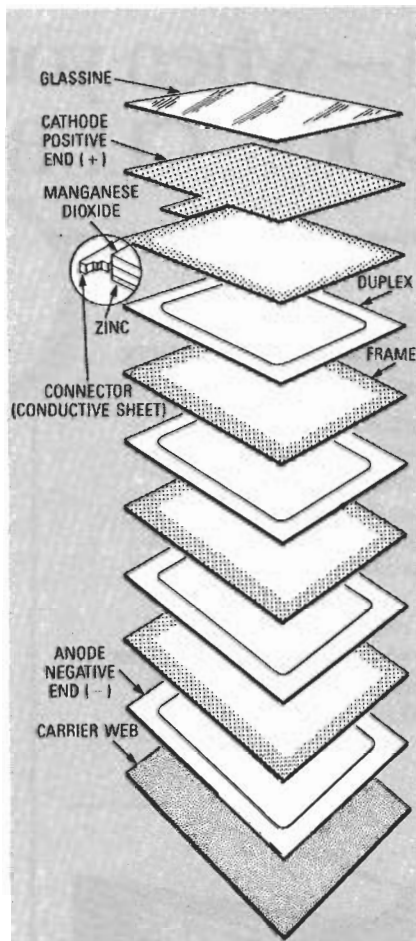

FIG. 4—THE LARGE ELECTRODE area of the *Polapulse* battery gives it the power to deliver enormous quantities of current.
A special form of the carbon-zinc design is the *Polapulse* battery (Fig. 4) used to power Polaroid instant cameras. Its thin, flat construction makes possible electrodes with large surface areas. That, in turn, gives it a large capacity—as much as 19 amperes of instantaneous current! A *Polapulse* experimenter's kit is available from Powercard Corporation, 391 Totten Pond Road, Waltham, MA 02154 (617) 890 6789. The P100 Designer's Kit contains five P100 batteries and a special holder for them; it costs \$17.50, and Massachusetts residents must add proper sales tax.